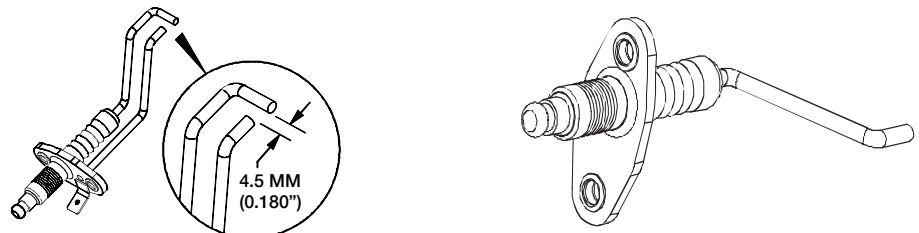

Figure 14.4: Ignition Electrode showing gap (left) & Ionization Electrode (right)
4. Inspect the condition of the ignition and ionization electrodes (Fig 14.4). Clean if necessary with a mild abrasive such as steel wool.